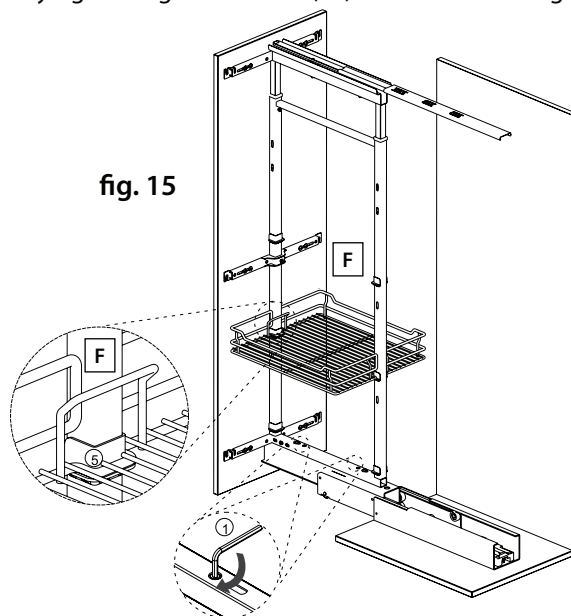

fig. 15
**17)** The final adjustment is top to bottom and tilt. Loosen the two M6 (#2) screws. Using the 4mm allen wrench (#1), tighten the front screw and loosen the back screw to tilt the top of the door out. If you loosen the front screw and tighten the back screw, the top of the door will tilt in. If you need to adjust the whole door down, tighten both screws the same amount. Finish by tightening the two M6 (#2) screws. Refer to figure 15.